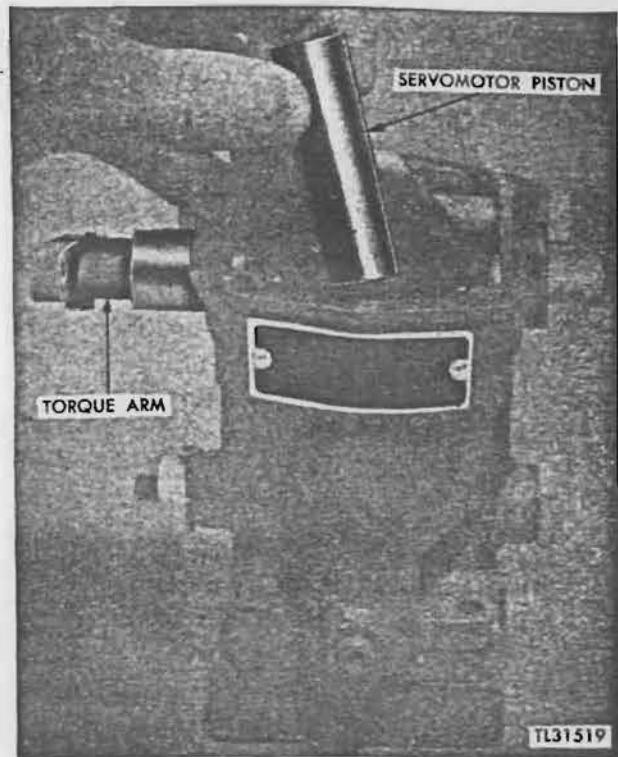

Figure 160. Removing servomotor piston from governor.
(1) The interior of the governor. Remove the three cover screws and the cover.
(2) The servomotor piston cylinder thoroughly. Remove the servomotor piston (fig. 160) by moving the torque arm and pressing the floating level to make room for the piston to be moved. The piston must be thoroughly polished. Use crocus cloth moistened with gasoline. Dry thoroughly.
(3) The exterior of the governor. Wipe with a clean cloth.